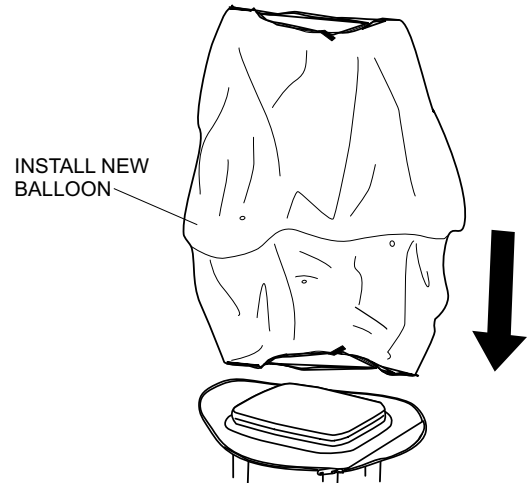

Figure 33. Replacing Balloon
3. Slide in the new replacement balloon over the top of the lamp guard assembly. See Figure 33.